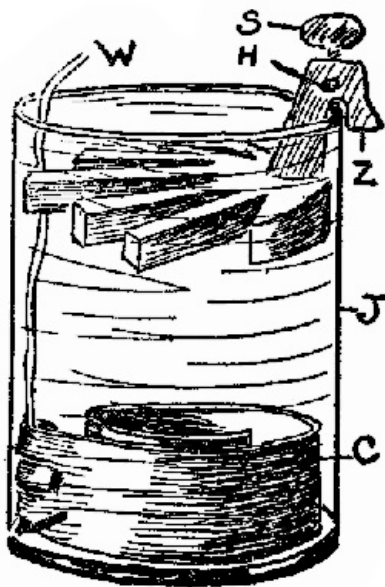

Fig. 9.
**11. Gravity Cell.** Fig. 9. In the two-fluid cell of App. 7 the fluids were kept apart by the porous cup. The gravity cell is really a two-fluid cell in which the two liquids are kept separate by the joint action of the current and the force of gravity. This cell is used for telegraph lines and for other closed-circuit work.
**12. Construction.** The zinc and copper, *Z* and *C*, Fig. 9, can be purchased about as cheaply as you can make them. There are many forms of the zincs, the one shown being called the crow-foot shape. The copper may be star-shaped, or as shown. If you wish to make *C*, use thin sheet-copper. Brush copper, 1¼ in. wide, is excellent for the purpose. Use a piece 12 or 15 in. long, and fasten to one end of it a copper wire, *W*, which must be covered with paraffined paper, or with rubber or glass tubing, where it passes up through the zinc sulphate solution and near *Z*. The glass jar, *J*, may be made from a large glass bottle. (See index for battery jars.)
**13. To Set Up the Cell.** (A) Place *C* upon the bottom of *J*, with *W* in the position shown. (B) Put in enough copper sulphate crystals to cover the bottom of *J*, but do not try to entirely cover *C*. At the start ½ lb. will be enough. (C) Pour in clean water until *J* is half full. (D) In another vessel dissolve 1 or 2 oz. of zinc sulphate in enough water to complete filling, *J*. (E) Hang *Z* in place (Fig. 9). *Z* must never touch *C*. They should be about 3 in. apart. A wire is attached to *Z* by the screw, *S*, and the hole, *H*. (F) Pour the zinc sulphate solution into *J* until it is within an inch of the top. It should cover *Z*.
**14. Regulating.** The two solutions are kept apart by gravity, as the copper sulphate is heavier than the zinc sulphate. The dividing line between the blue and white solutions is fairly clear when the battery works well, and it should be about half way between *C* and *Z*, or about at *J*, Fig. 9. Never allow the blue to get as high as *Z*, as this indicates that the cell is not worked enough. The dividing line can be lowered by allowing it to run a buzzer or bell for a few hours, or by simply short-circuiting it. If the blue gets much below *J* it indicates that you are working the cell too hard, or that you need more copper sulphate. The harder the cell works, the more zinc sulphate is formed, and the lower the dividing line becomes.